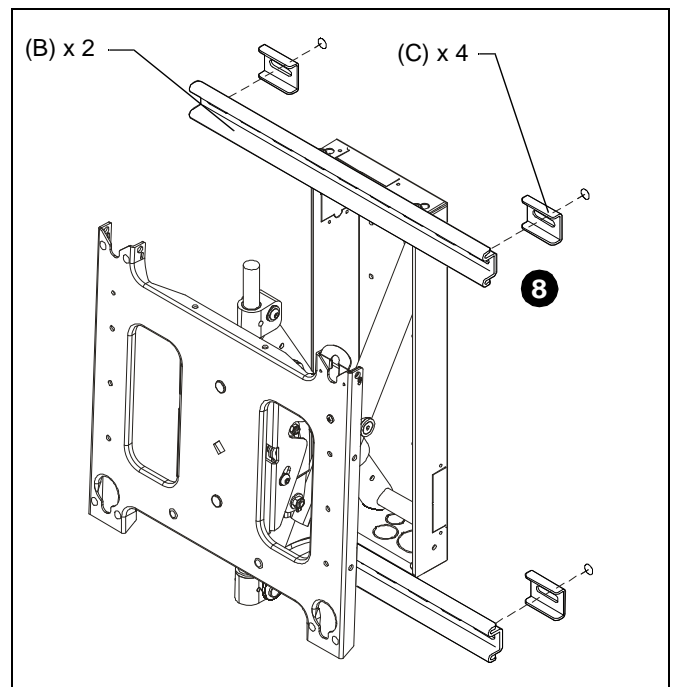

Figure 6
Place spacers (C) provided between wall and upper and lower mounting rails (B) if required. (See Figure 6)